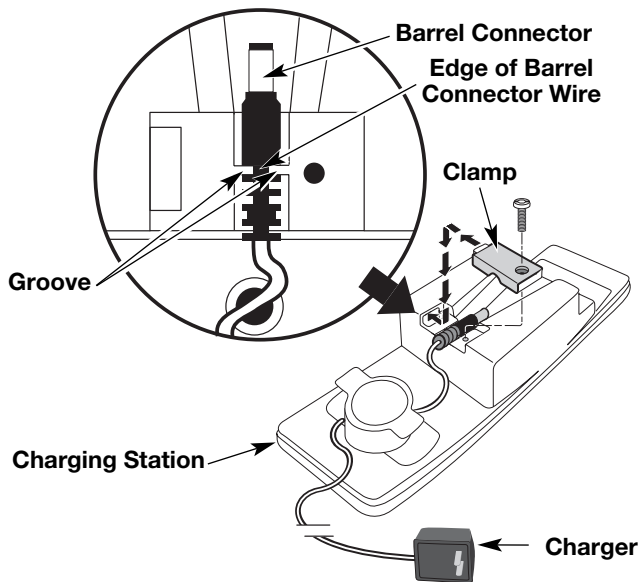

Fig. 19
2. Remove the screw from the clamp holding the barrel connector in place using a standard or T-20 Torx bit screwdriver (Fig. 19).
4. Insert the narrow side of the barrel connector wire into the groove in the slot of the charging station. Ensure that the barrel connector is inserted correctly and secure (Fig. 19).